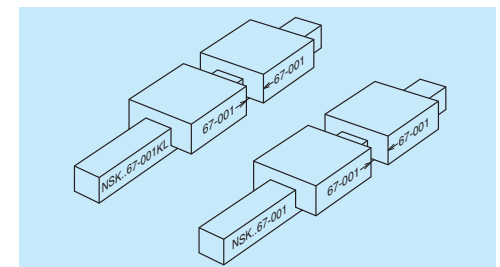

Fig. 10.30 When two rails have different reference number
- When two or more rails of different reference number are used in a single set, the rails and slides have the same serial number. In this case, when slides are removed from the rail, it is unclear which rail each slide was previously installed on. When removing ball slides from the rail for an unavoidable reason (Fig. 10.30), sufficient precaution is required.